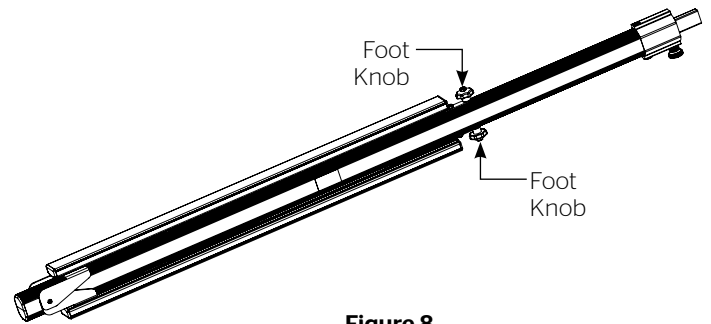

Figure 8
10. Raise front foot of each leg and lock foot slide at 90 degree mark by turning knob clockwise. See Figure 8.
12. Lower back foot and lock foot slide at 90 degree mark by turning knob clockwise. See Figure 8.